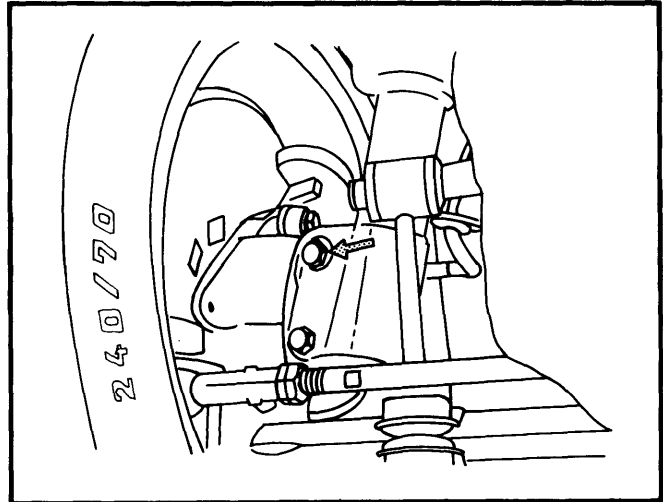

Fig. 5 924 Camber Eccentric Bolt Location
**924 (Front)** — Adjust camber by turning eccentric bolt shown in Fig. 5.